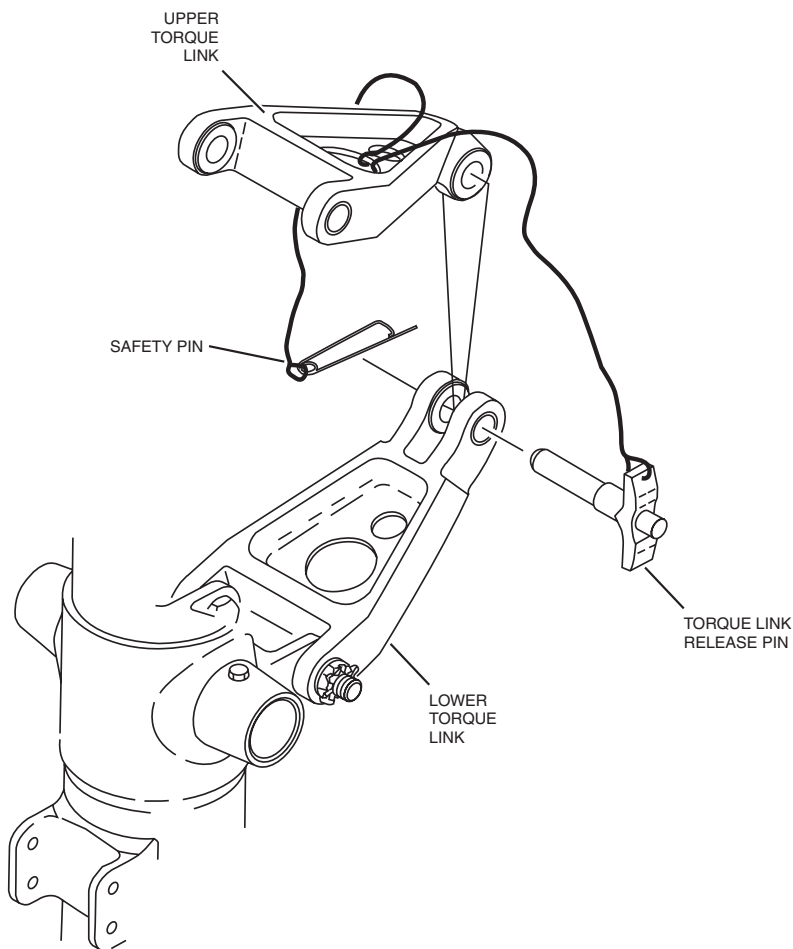

Figure DIM-3. Torque Links
5. Remove the torque link disconnect pin by removing the safety pin from the shaft, pushing the release button, and pulling out the pin (Figure DIM-3).